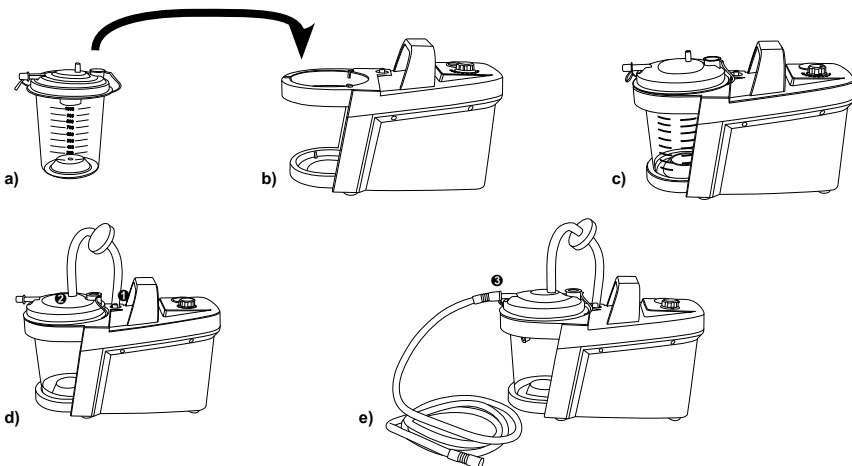

Figure 5
- Press it onto the container (Figure 5/a-c) with both hands as far as it will go, exerting light pressure.
- The filter is connected between the connection on the suctioning device (1) and the connection for the suctioning device in the centre of the secretion container lid (2) with the aid of the two short connecting tubes (Figure 5 / d).
- Connect the suction tube to the connecting piece at the side of the secretion container lid (3), turning it slightly (Figure 5 / e).